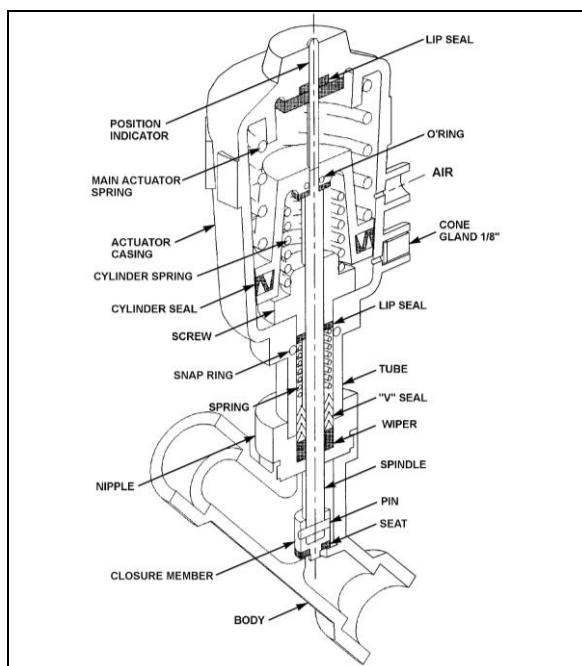

FIGURE 53: PASSENGER'S UNIT PNEUMATIC HOT WATER VALVE
2. The water valve need not be removed from the line. Unscrew nipple, the actuator casing, tube, spindle and closure member can be removed (Figure 53).
2. Tighten the nipple in place in the body cavity as per Figure 53. Fasten pilot solenoid valve to the pneumatic water valve. Reconnect air supply pressure and electrical current to the pilot solenoid valve.